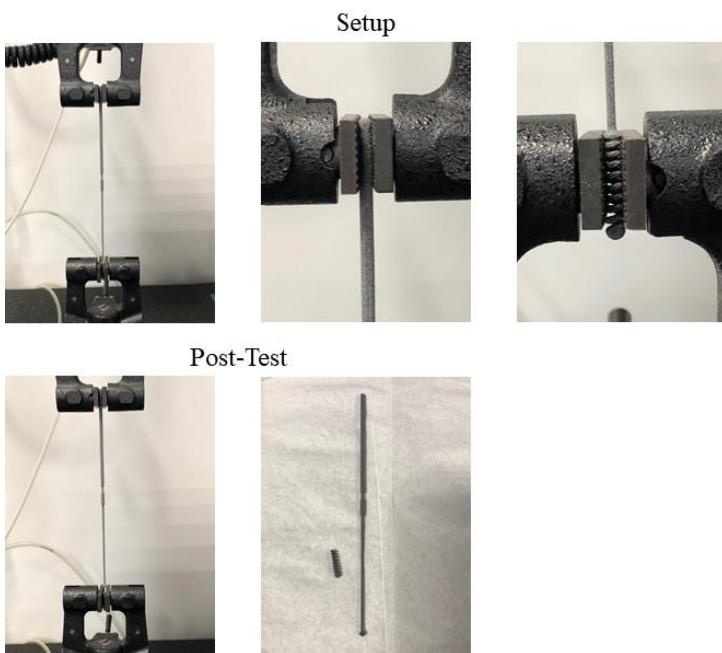

**Figure 28.** Representative image of a swab classified as breaking at the “Breakpoint.”
3. “Breakpoint” (for swabs that broke at the desired breakpoint on the handle – Figure 28).